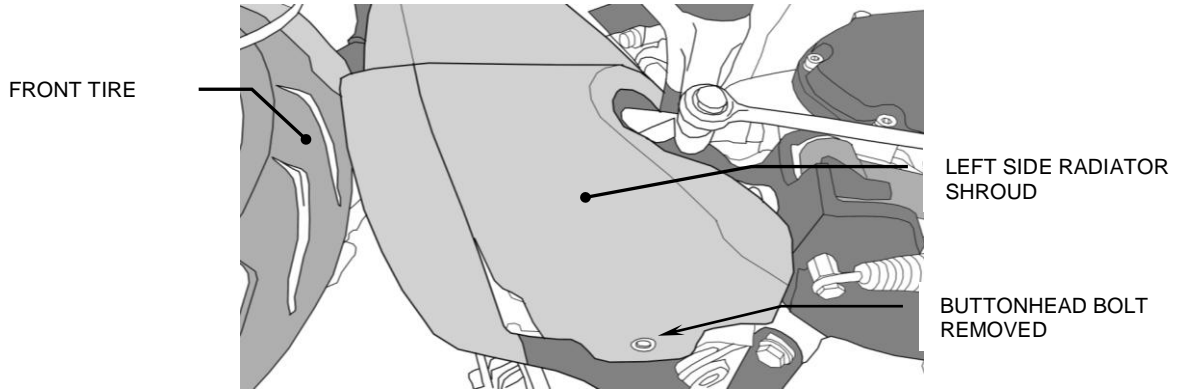
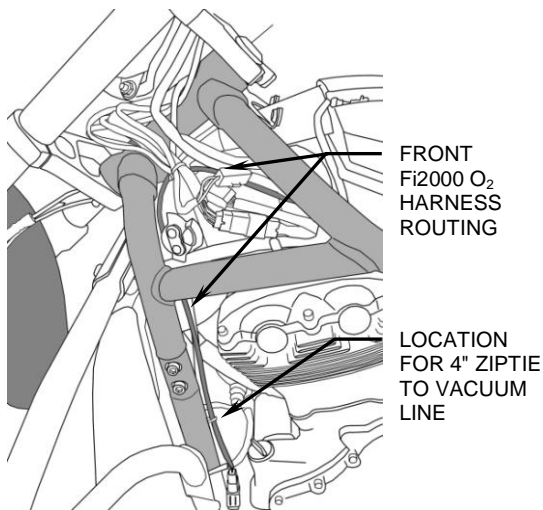
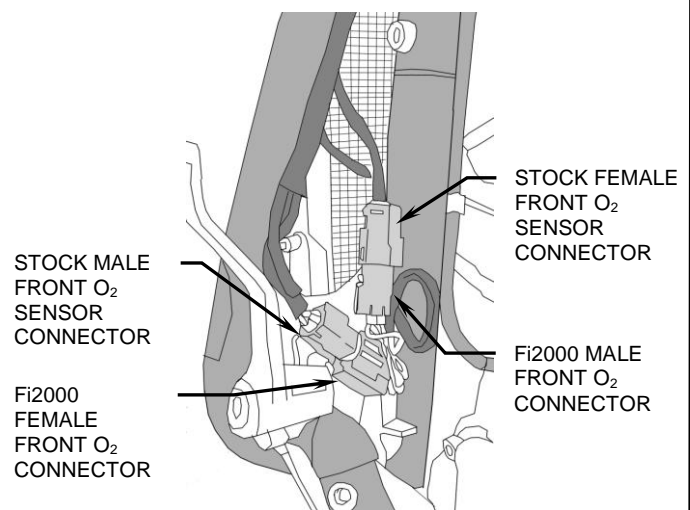

FIGURE 4
FIGURE 5
FIGURE 6
5. Route the long front oxygen sensor harness along the upper left frame rail next to existing harnesses and continue forward under connectors which were exposed under the cover removed in Step 3. Remove the buttonhead socket screw from the bottom of the left radiator shroud to allow shroud to be pulled outward, Figure 4, to expose the light gray front O₂ sensor connectors. Continue routing harness down next to vacuum line and then outward towards left radiator shroud, see Figure 5. Disengage connectors and mate corresponding male and female connectors from motorcycle to Fi2000, see Figure 6. Tuck the connectors back between the frame rail and shroud neatly.